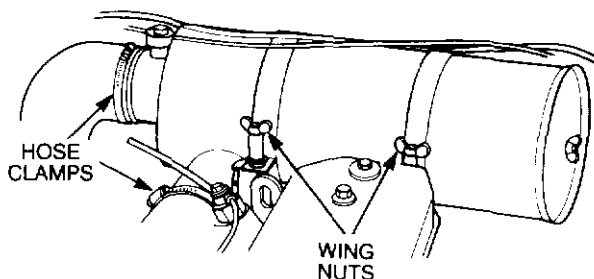

Figure 3-12 Air cleaner removal
- a. Remove the hose clamps securing the air inlet and outlet hoses to the air cleaner housing (see Fig. 3-12) then remove the two wing nuts from the clamp bolts. Carefully lift the air cleaner out of the mounting brackets.